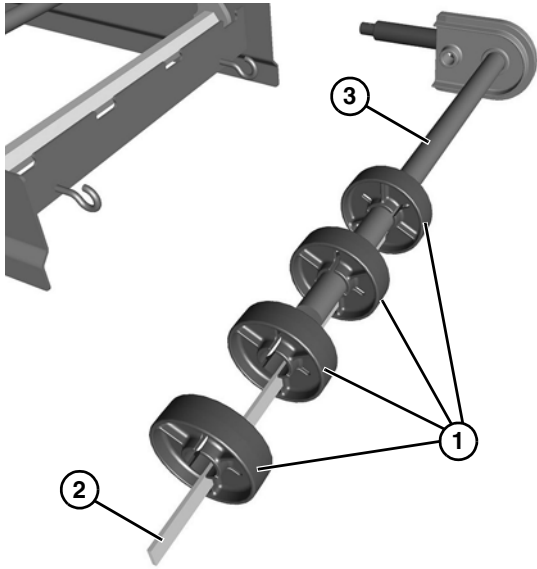

Figure 68
1. Place the pucks (Figure 68, item 1) onto the alignment bar (Figure 68, item 2), and install onto the idler shaft (Figure 68, item 3).
2. Slide all the idler pucks (Figure 68, item 1) along with alignment bar onto idler shaft (Figure 68, item 3).